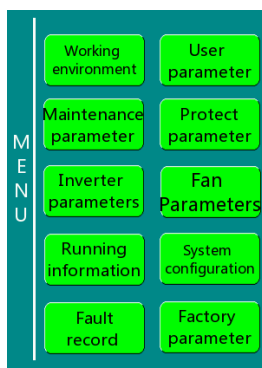

Figure 4-4 Menu interface
Step 3 Click **Menu** on the interface. The interface shown in Figure 4-4 is displayed.